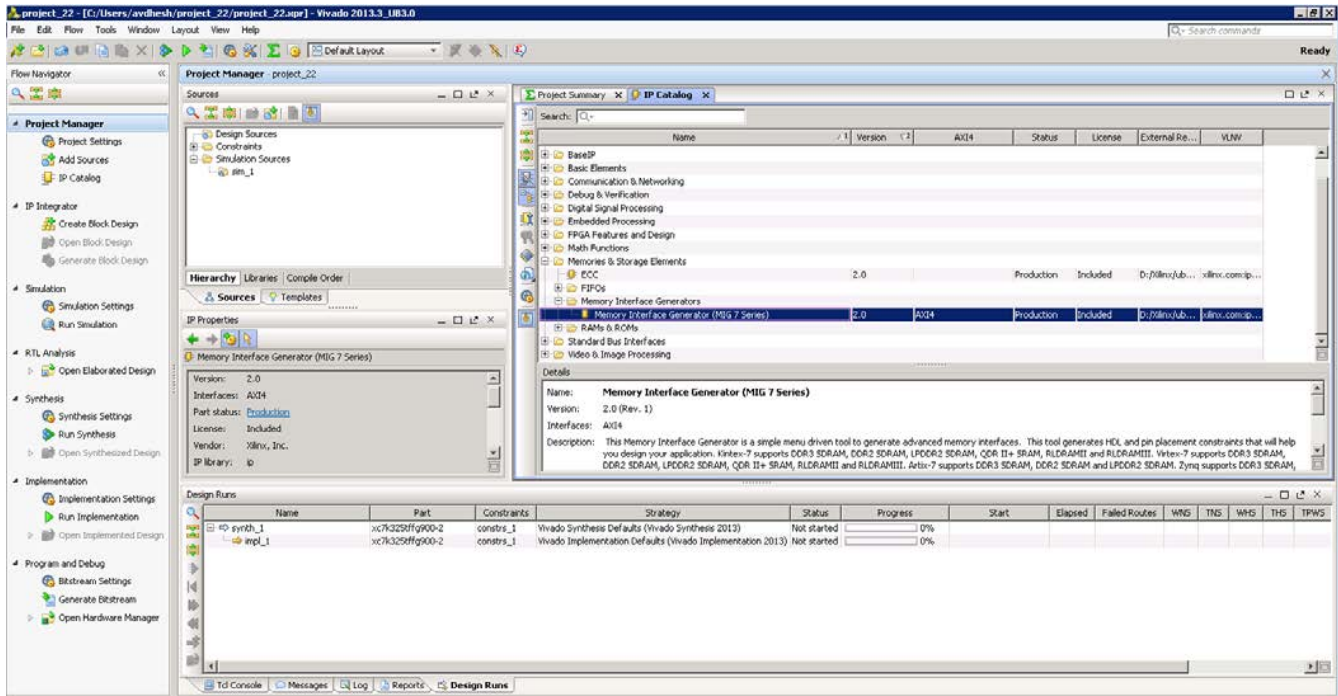

Figure 4-12: IP Catalog Window – Memory Interface Generator
11. Click **IP Catalog** on the Project Manager window to open the IP catalog window. The IP catalog window appears on the right side panel (see Figure 4-12, highlighted in a red circle).
12. The MIG tool exists in the **Memories & Storage Elements > Memory Interface Generators** section of the IP catalog window (Figure 4-12) or you can search from the Search tool bar for the string "MIG."